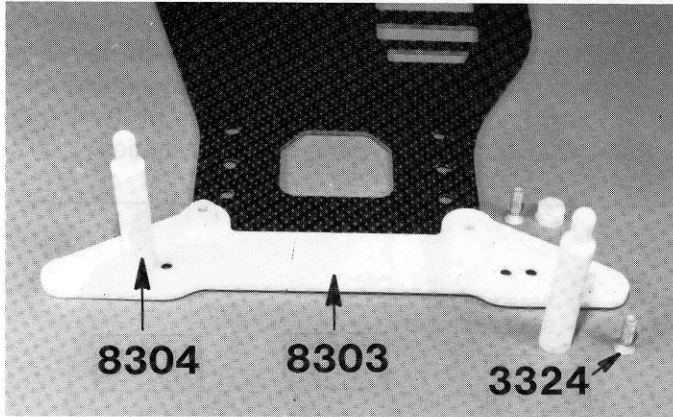

**Fig. 1**
**Fig. 1**— There are two RC10L kits made. The #8005, which is a fiberglass chassis kit, and the #8006, which is a graphite chassis kit. Those of you who have the fiberglass chassis can always update to the graphite chassis at a later date. The chassis are fully interchangeable.
To begin, take your chassis, graphite or fiberglass, and notice that the BOTTOM of the chassis has the holes countersunk for screw heads. On the TOP of the chassis we want to file the battery slots at the small angle that Fig. 1 shows, so the battery cells will not be against a sharp corner that could possibly cut through the battery sleeve. Lightly file both sides, front and back, of all the slots so the battery cells have a flat surface to seat against. (Figs. 77, 78 & 79 show how the cells are seated in the chassis.) You'll also want to file the edges of the chassis where the strapping tape holding in the batteries touches the chassis. Just round these corners so they can't cut the tape.
You're now finished with Fig. 1, so put a check mark in the box next to "Fig. 1" to show this step is completed. After you've completed each step from now on, check off its box so you know which part of the assembly is completed. You won't miss any steps this way.